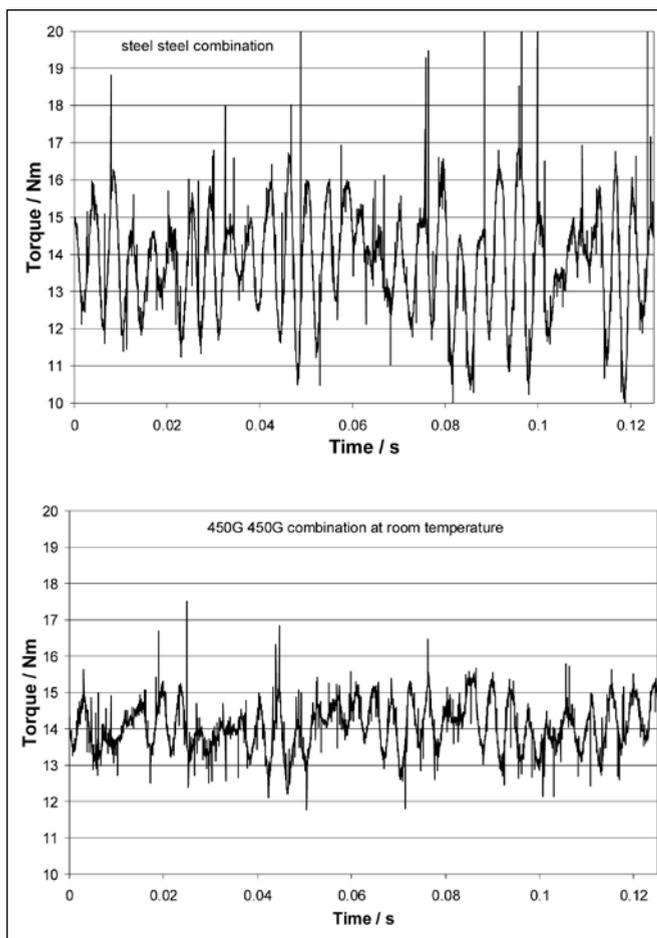

Figure 7—Torque data for steel-steel and Victrex 450G/Victrex 450G gear combinations.
**Victrex 450G/Victrex 450G combination.** The torque and transmission data are shown (Figs. 7–8).